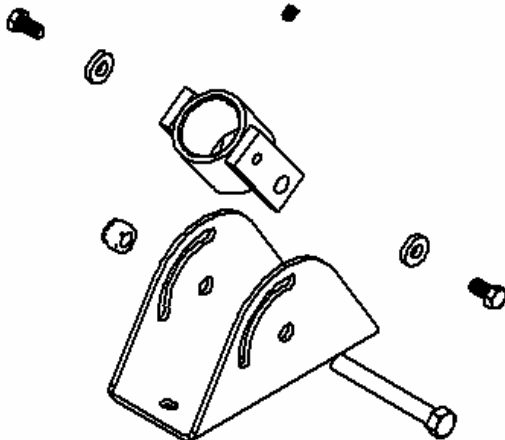

Figure 1. Assembly
1. Set coupler in place in the center of ceiling plate and slide ½”-13 X 4” hex head bolt through both parts (see Figure 1). Secure using ½”-13 Nylock nut.
2. Install two 3/8”-16 X 5/8” hex machine screws, with ¾” washers, through adjusting slots on either side of bracket into holes in the coupler assembly (see Figure 1). Do not tighten.